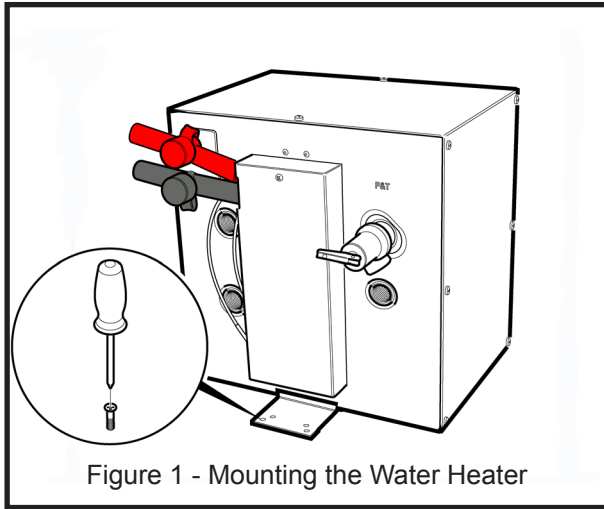

Figure 1 - Mounting the Water Heater
**Step 1** Secure mounting brackets to structure with eight #12 minimum screws or ¼" (6.3mm) screws and nuts (See figure 1.). The minimum mounting surface depth is ½" (12.5mm).